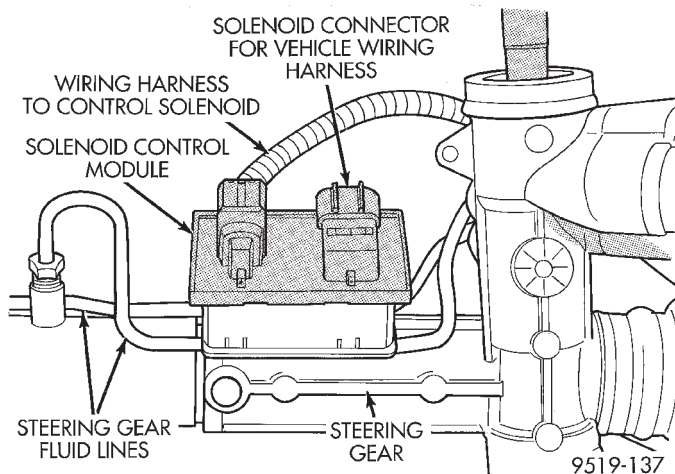

Fig. 4 Wiring Harness Connections To Solenoid Control Module
(1) Remove electrical connector to the solenoid control valve, at solenoid control module (Fig. 4).
(4) Connect wiring harness connector from solenoid control valve onto solenoid control module (Fig. 4). **Be sure wiring harness connector seal are on connector is in good condition before installing connector on control module.**
(5) Road test vehicle or refer to the test using the DRB scan tool, to confirm correct operation of the variable-assist speed-proportional power steering gear.